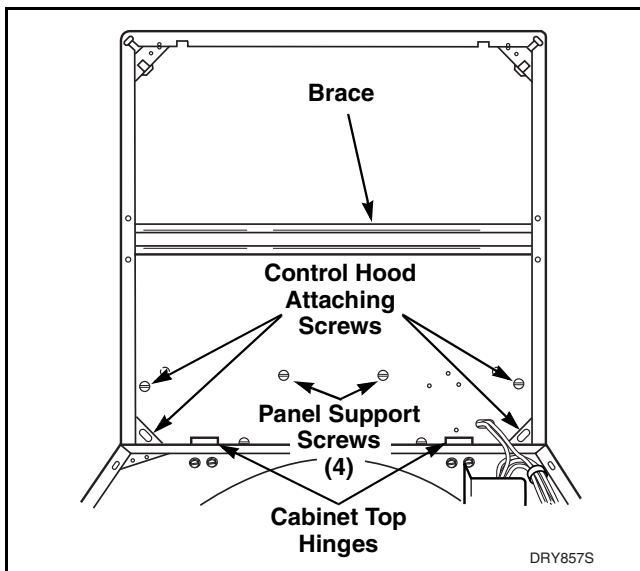

Figure 27
- e. Lift front of cabinet top, disengage from hinges from rear of cabinet. Refer to *Figure 27*.
- f. Remove brace from under side of cabinet top by swinging on end toward front or rear. Refer to *Figure 27*.
- e. Lift front of cabinet top, disengage from hinges on rear of cabinet. Refer to *Figure 27*.
- g. Remove brace from underside of cabinet top by swinging one end toward front or rear. Refer to *Figure 27*.